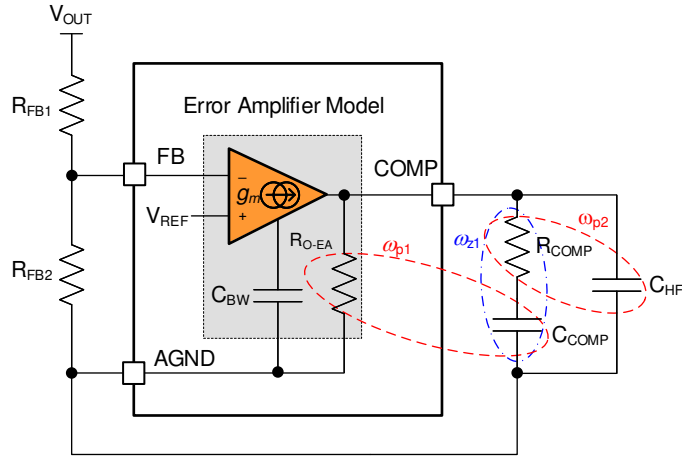

Figure 9-3. Error Amplifier and Compensation Network
Figure 9-3 shows a Type-II compensator using a transconductance error amplifier (EA). The dominant pole of the EA open-loop gain is set by the EA output resistance, R_{O-EA} , and effective bandwidth-limiting capacitance, C_{BW} , as shown in Equation 28.